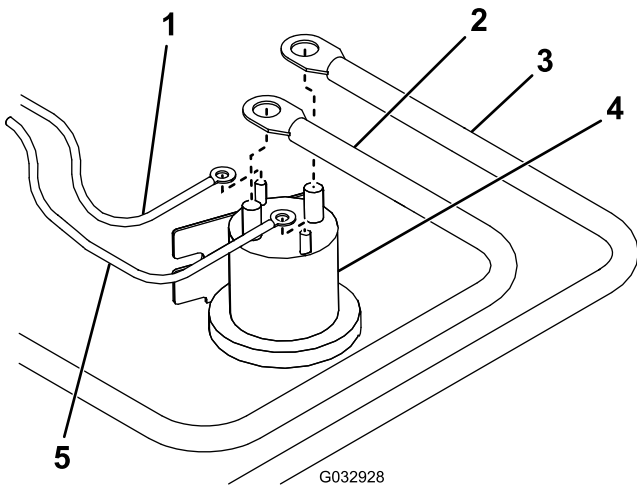

Figure 15
9. Connect the white/black wire from the wire harness to the small post on the pump solenoid (Figure 15).
10. Connect the brown wire with the small ring connector to the other small post on the pump solenoid (Figure 15).
11. Connect the red power/ground cable to the large post on the pump solenoid (Figure 15).
12. Connect the battery cable to the other large post on the pump solenoid (Figure 15).